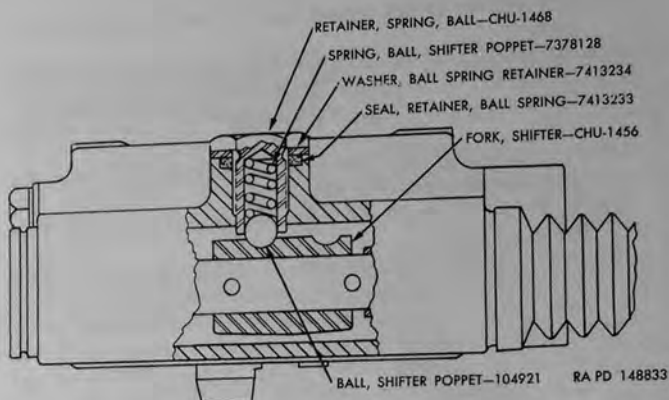
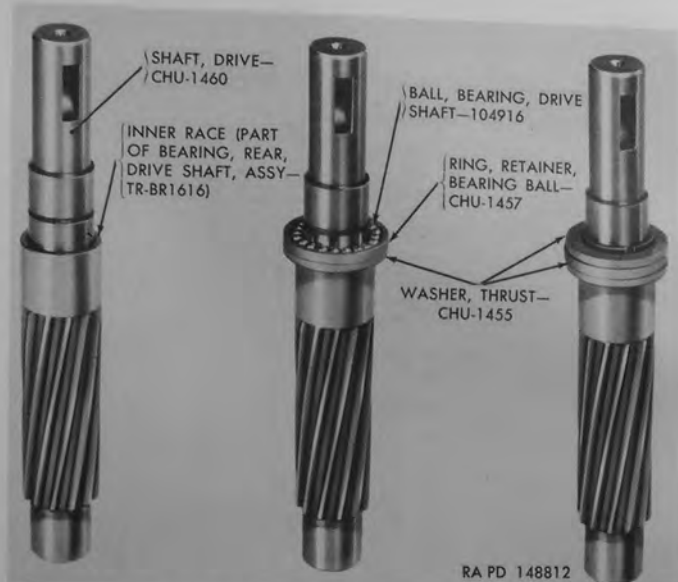

Figure 102. Sectional view showing shifter poppet ball installed.
Figure 103. Method of installing drive shaft bearing balls.
- (1) Inner race (R) is pressed onto drive shaft (Q). Remove old inner race from shaft, using care not to damage shaft.
- (2) Press new inner race (R) onto shaft until it bottoms on shoulder of shaft. Refer to figure 103 for location of inner race.
- (3) With suitable tool, remove drive shaft rear bearing assembly (P) from housing.
- (4) Press new bearing into housing until it is flush with outer surface of housing. Make certain that tool used to install bearing assembly contacts entire edge surface of bearing to prevent damage to bearing assembly.
c. Insert shifter poppet ball (N) into housing to engage notch on shifter fork (DD). Refer to figure 102 for correct installation of poppet ball and retaining parts. Insert shifter poppet ball spring (M), new ball spring retainer seal (L), ball spring retainer washer (K), and ball spring retainer (J). Tighten ball spring retainer firmly.
d. Install new housing plug (BB) into housing, bottoming plug on housing shoulder.
e. With drive shaft (Q) positioned as shown in figure 103, install a thrust washer (S), then install bearing ball retainer ring (U).
f. Lubricate drive shaft bearing balls (T); then place 21 bearing balls into retainer ring.
g. Place second thrust washer (S) over bearing balls. Install new locking ring (V) onto shaft groove of shaft.
h. Thoroughly lubricate drive shaft front (G) and rear (P) bearing assemblies. With sliding gear (HH) in place on shifter fork (groove toward rear of housing), insert assembled drive shaft in housing through drive shaft rear bearing assembly (P), then through sliding gear and drive shaft front bearing assembly (G). Make certain that thrust washer (S) at front bottoms against drive shaft rear bearing assembly.
i. With new drive shaft rear bearing cap gasket (W) in place, install drive shaft rear bearing cap (X) with drive shaft oil seal assembly (Y) in place. Use three $\frac{5}{16}$ -18 x $1\frac{1}{4}$ fillister head cross-recess screws and $\frac{5}{16}$ -inch special lock washers. Tighten screws firmly.
- (1) Inner race (P) is pressed onto drive shaft (N). Remove old inner race from shaft, using care not to damage shaft.
- (2) Press new inner race (P) onto shaft until it bottoms on shoulder of shaft. Refer to figure 103 for location of inner race.
- (3) With suitable tool, remove drive shaft rear bearing assembly (M) from housing.
d. Install new housing plug (KK) into housing, bottoming plug on housing shoulder.
e. With drive shaft (N) positioned as shown in figure 103, install a thrust washer (Q); then install bearing ball retainer ring (S).
f. Lubricate drive shaft bearing balls (R); then place 21 bearing balls into retainer ring.
g. Place second thrust washer (Q) over bearing balls. Install new locking ring (T) onto shaft groove of shaft.
h. Thoroughly lubricate drive shaft front (E) and rear (M) bearing assemblies. With sliding gear (DD) in place on shifter fork (groove toward rear of housing), insert assembled drive shaft in housing through drive shaft rear bearing assembly (M), then through sliding gear and drive shaft front bearing assembly (E). Make certain that thrust washer (Q) at front bottoms against drive shaft rear bearing assembly.
i. With new drive shaft rear bearing cap gasket (U) in place, install drive shaft rear bearing cap (V) with drive shaft oil seal assembly (W) in place. Use three $\frac{5}{16}$ -18 x $1\frac{1}{4}$ fillister head cross-recess screws and $\frac{5}{16}$ -inch special lock washers. Tighten screws firmly.
j. With new drive shaft front cover gasket (D) in place, install drive shaft front bearing cover (C) with three $\frac{5}{16}$ -18 x $\frac{1}{2}$ cap screws and $\frac{5}{16}$ -inch lock washers. Tighten cap screws firmly.
k. Install shifter shaft boot (Z) over drive shaft and on housing. Clamp both ends of boot with wire if necessary.